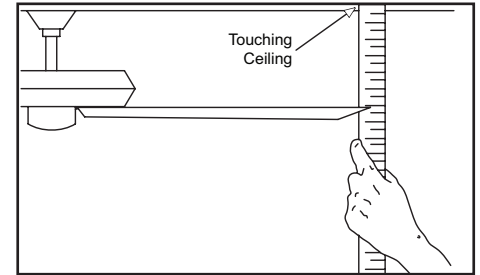

Figure 16
2. Most fan wobble problems are caused when blade levels are unequal. Check this level by selecting a point on the ceiling above the tip of one of the blades. Measure from a point on the center of each blade to the point on the ceiling. Measure this distance as shown in Figure 16. Rotate the fan until the next blade is positioned for measurement. Repeat for each blade. Measurements deviation should be within  $1/8''$ . Run the fan for 10 minutes.